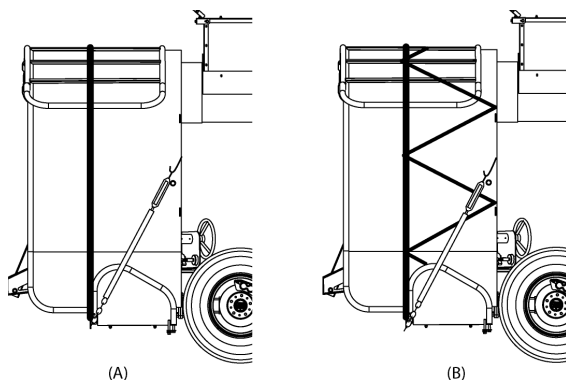

Figure 18 – Arrangement of elastic ropes
tunnel. This 16-mm (5/8") diameter rope, which helps to control the unfolding of the grain bag, hooks into the eyelets located at the bottom of the tray as shown in Figure 18 (A). The 8-mm (5/16") diameter rope used for holding the elastic rope should be hooked into the eyelets located on the silo tunnel, running round the elastic rope between one ring and the next. This retaining rope should end up arranged in a zigzag as shown in Figure 18 (B).